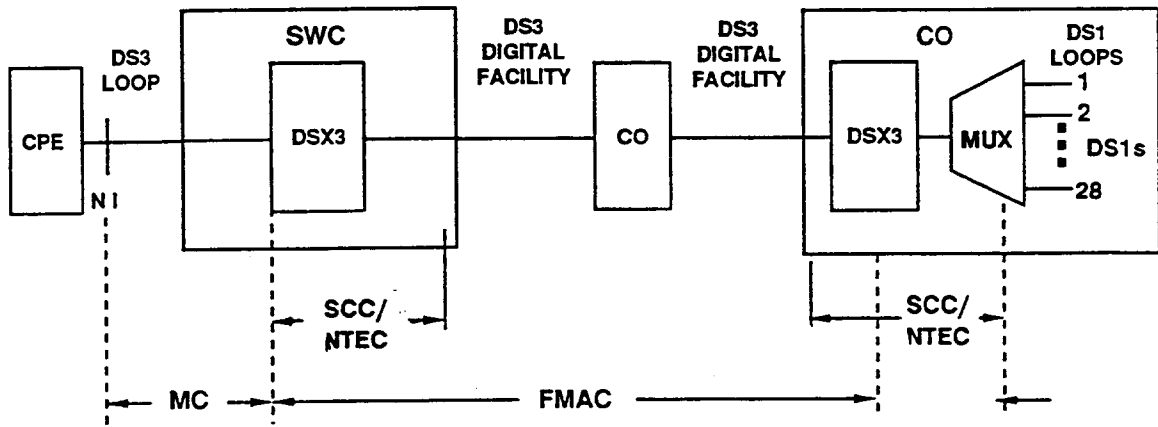

Fig. 2 - Multiplexer Arrangement and Operations Center Repair Responsibility
**1.12** For DS3 circuits with the CO multiplexer function, the responsible center for the maintenance of the DS3 equipment in the CO and described in paragraph 1.10 is shown in Fig. 2. Responsibilities of the FMAC for DS3 service with the multiplexer function are as follows: